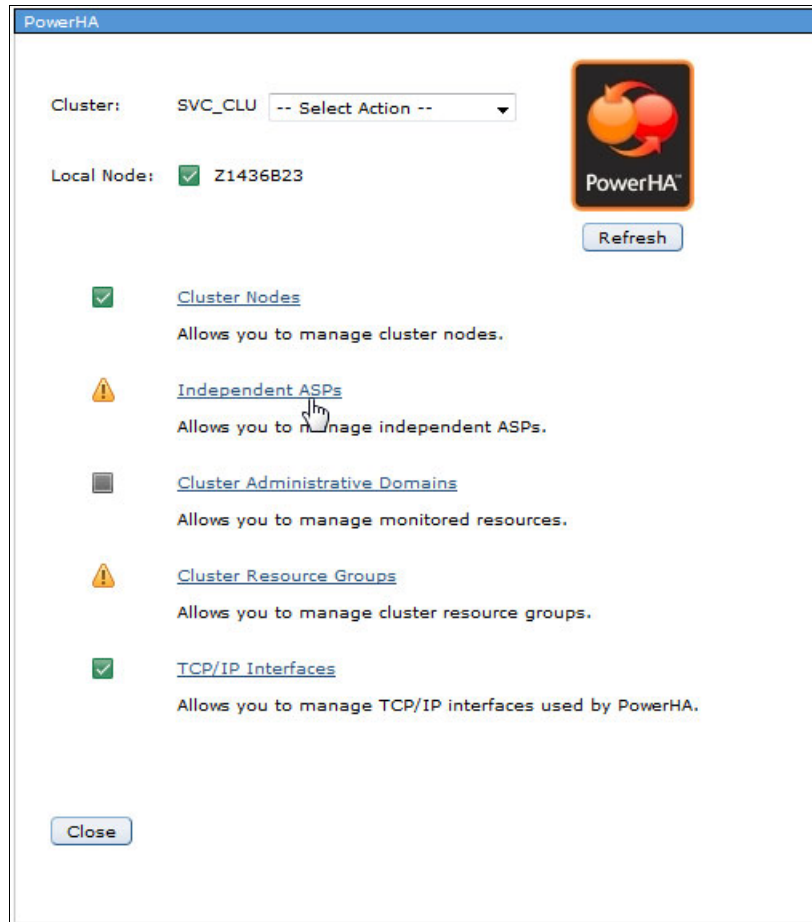

Figure 4-33 PowerHA main menu, selecting Independent ASPs
29. The last step to set up LUN level switching with PowerHA SystemMirror for i is to create an ASP Copy description. From the PowerHA main menu, click **Independent ASPs**, as shown in Figure 4-33.